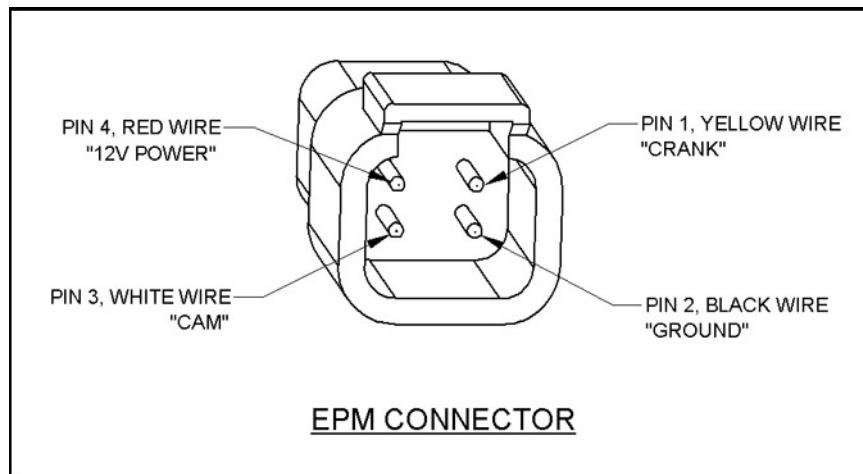

Figure 1.
a) The EPM has a short cable with a 4 pin connector, supplied with the EPM is the mating connector housing with 5 crimp terminals. The connector pinouts are shown in figure 1.